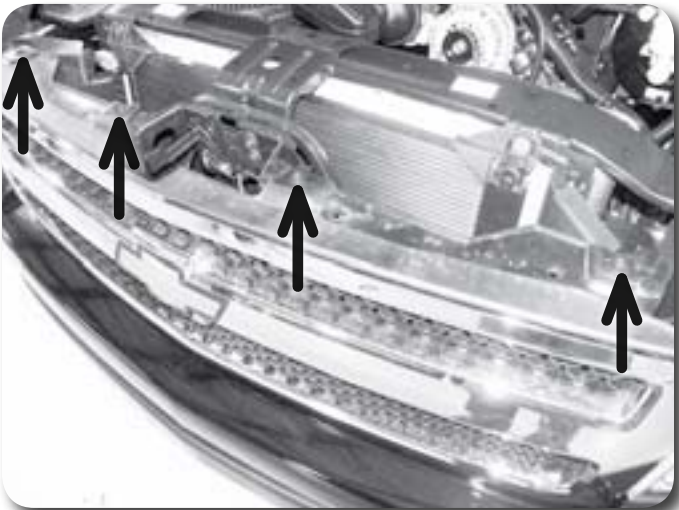

Figure 2
2. Remove the 4 bolts mounting the top of the grill to the core support **Figure 2**. Pull out on the grill (starting at the bottom) to release the retaining clips. Remove the grill from the vehicle.